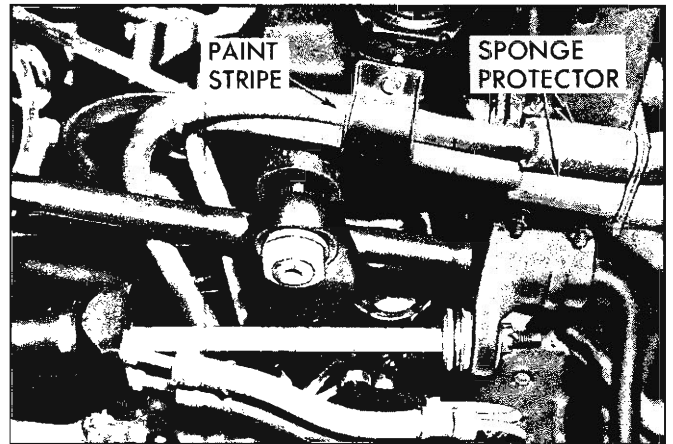

Fig. 14—Position of Clamp, Hose and Protector
1. Carefully route hose through chassis and body parts (pump-to-valve hoses only) being careful of clamps and supports. Note position of sponge rubber protector (fig. 14).
3. On pump-to-valve hoses, align green stripe on hose with inboard edge of wide clamp as shown in Figure 14; tighten clamp.